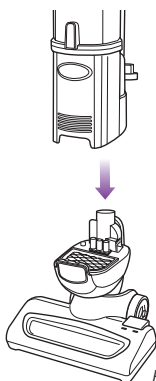

Fig. 2
- 1 Place the main unit on top of the vacuum nozzle and press down to make sure that the vacuum nozzle is firmly secure to the vacuum body. (Fig. 2) You will hear an audible click when the two parts are attached correctly.